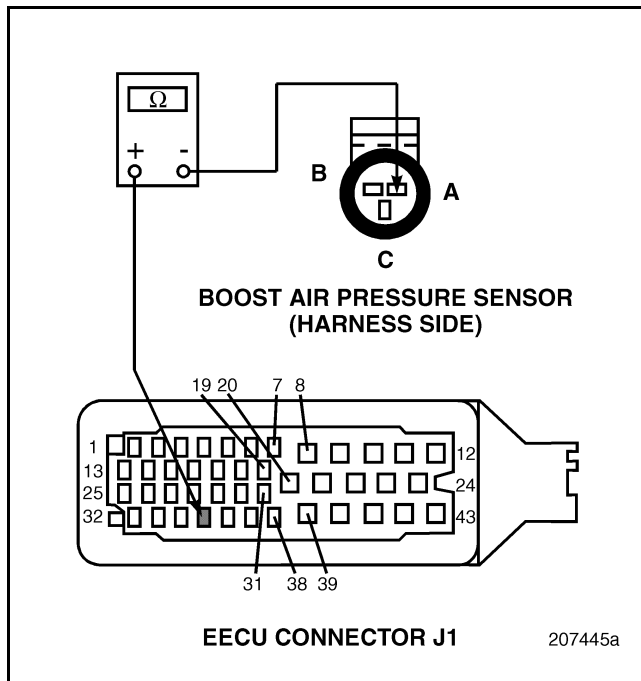

Figure 176
4. Check for continuity between BAP Sensor harness connector pin A (ground line) and EECU harness connector J1 pin 35 (see Figure 176).